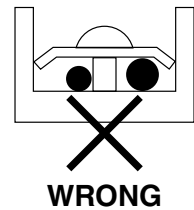

Fig. 33
- Do not connect wires of different gauge to the same power supply terminal. (Looseness in the connection may cause overheating.) (**Refer to Fig. 33**)